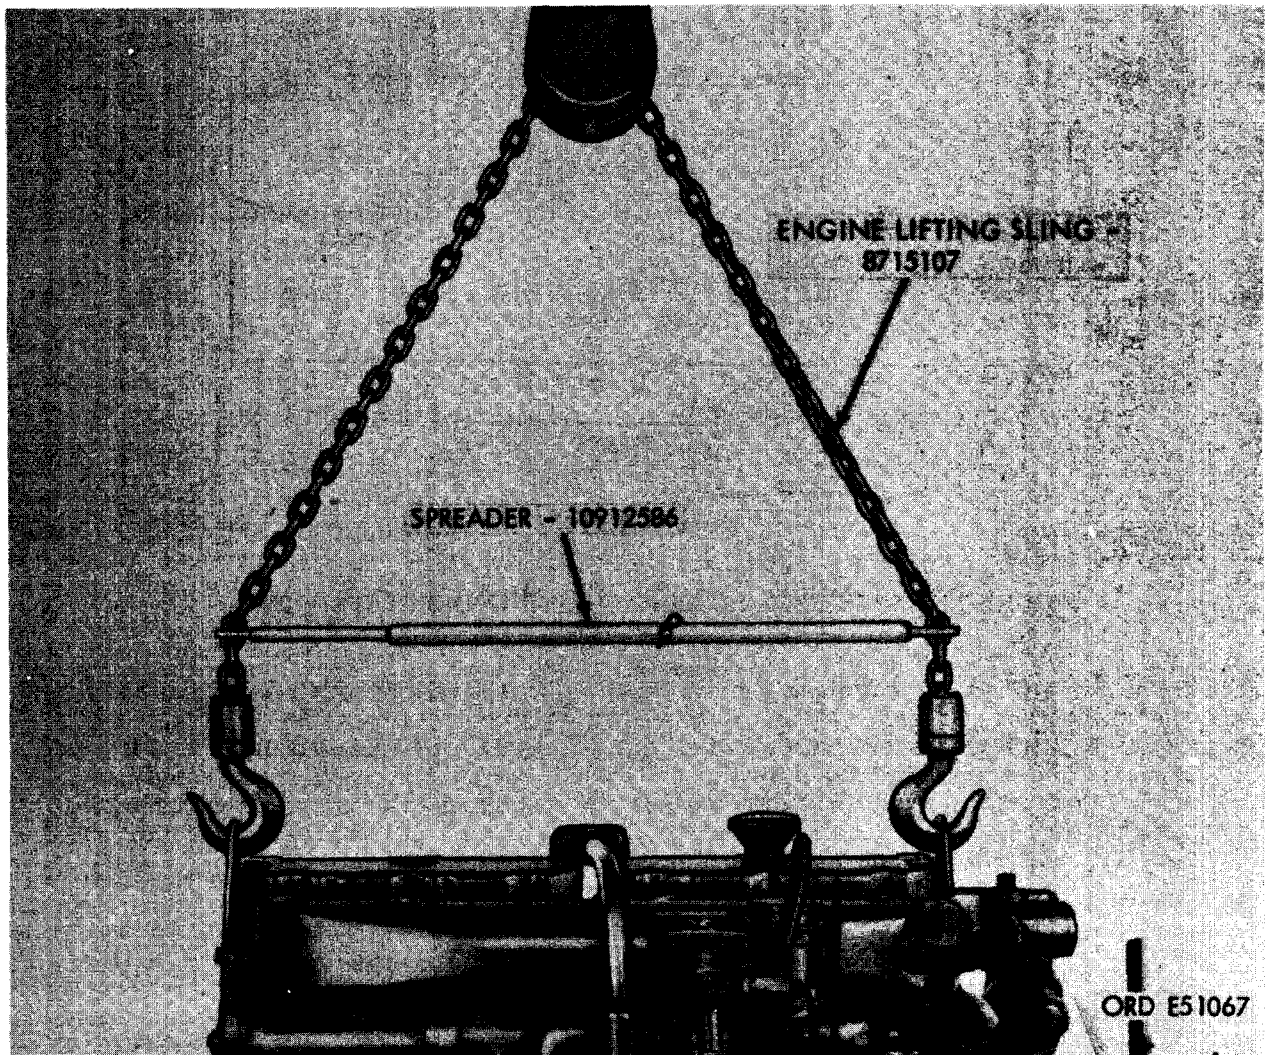

FIGURE 223. LIFTING ENGINE USING ENGINE LIFTING SLING.
a. Install Engine Mounting Brackets. Lift engine using sling- 8715107 and spreader - 10912586 (fig. 223) and position engine over overhaul stand -7950189 and cradle -7950198 with flywheel toward overhaul stand gear box. Install the right rear engine mounting bracket - 10899188 and left rear engine mounting bracket